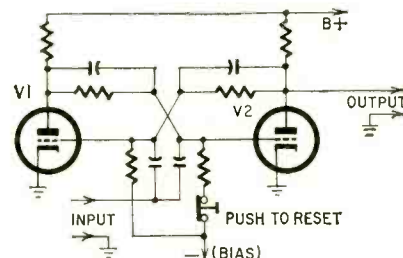

Fig. 3—Binary circuit requires two input pulses for each complete cycle of operation. Reset switch starts circuit with right-hand tube conducting.
**Binary circuit:** A circuit having two stable states and switching from one to the other each time it receives an input pulse. The two stable states of the binary circuit shown in Fig. 3 are V1 below cutoff and V2 conducting, and V1 con-
The manual reset switch in Fig. 3 is used to remove the bias momentarily from V2, allowing it to conduct and establishing the starting condition (V1 below cutoff and V2 conducting). This is the off condition of the circuit. When an input pulse is applied, V2 is driven to cutoff and V1 conducts. This is the on condition of the circuit.